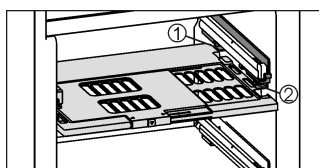

Fig. 8
- ▶ To insert the humidity control plate: Insert the guide pieces of the plate into the rear retainer Fig. 8 (1) from below, then snap the plate into the retainer Fig. 8 (2) in the front.